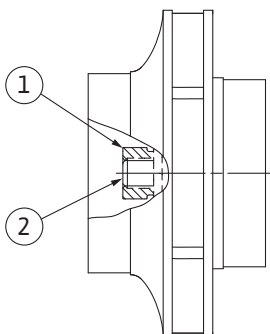

Fig. 111: Correct position of the impeller nut after installation
8. Hold the shaft with open-end wrench (22 mm width across flats) and tighten the impeller nut to the prescribed tightening torque (see table "Tightening torques" [► 33]). The nut (Fig. 111, Item 1) has to be about ± 0.5 mm flush with the shaft end (Fig. 111, Item 2). If this is not the case, release the nut and repeat steps 4 – 8.